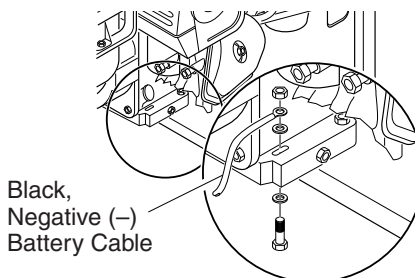

Figure 9 - Connecting Black, Negative (-) Battery Cable to Engine Block (Model MGH6500AIE Shown)
2. Attach the black, negative (-) battery cable to the engine block. Use the bolt, nut, and two washers provided with the battery cables. Use long mounting hole on opposite side of engine from starter solenoid. Attach cable as shown in Figure 9.